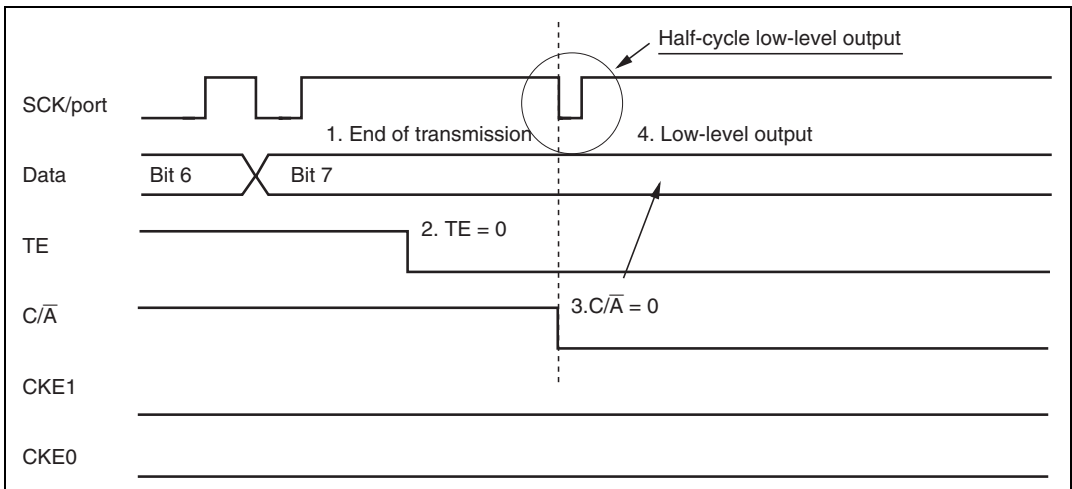

Figure 13.23 Operation when Switching from SCK Pin Function to Port Pin Function
- Occurrence of low-level output (see figure 13.23)